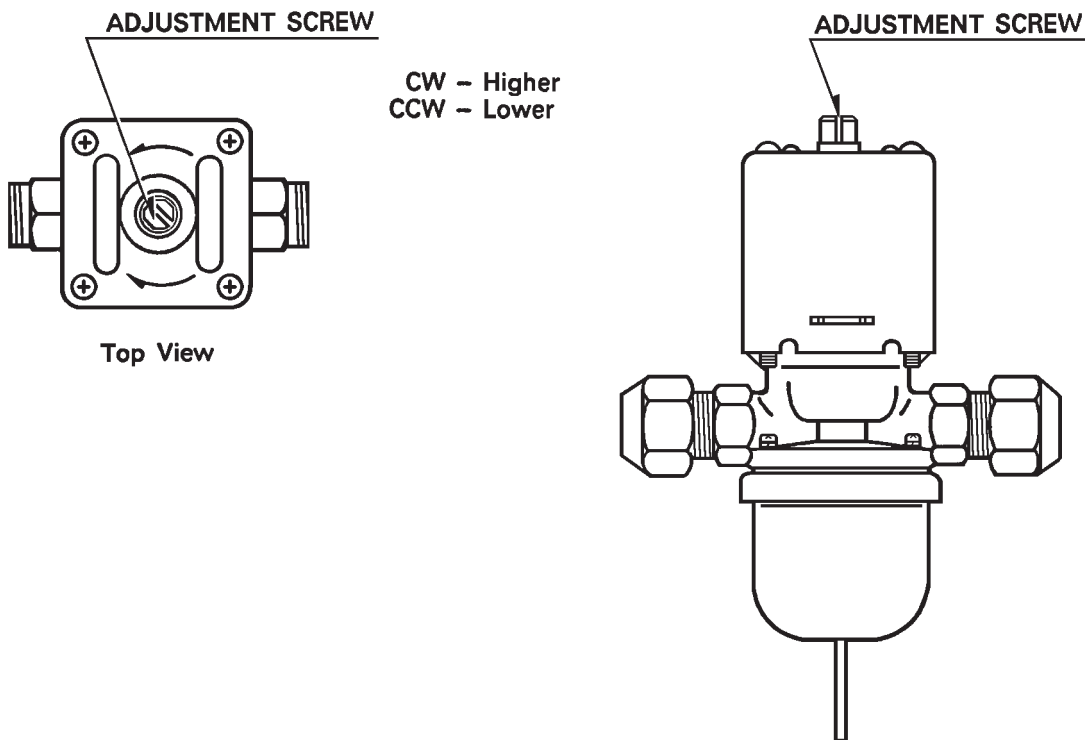

Fig. 10
- 2) Five minutes after a freeze cycle starts, confirm that the thermometer reads 104°F to 115°F (40°C to 46°C). If it does not, rotate the adjustment screw by using a flat blade screwdriver until the temperature is in the proper range. See Fig. 10. Next, check that the reference pressure is in the range indicated in the Head Pressure table. See "VIII. B. Performance Data". If it is not in the proper range, verify the refrigerant charge.